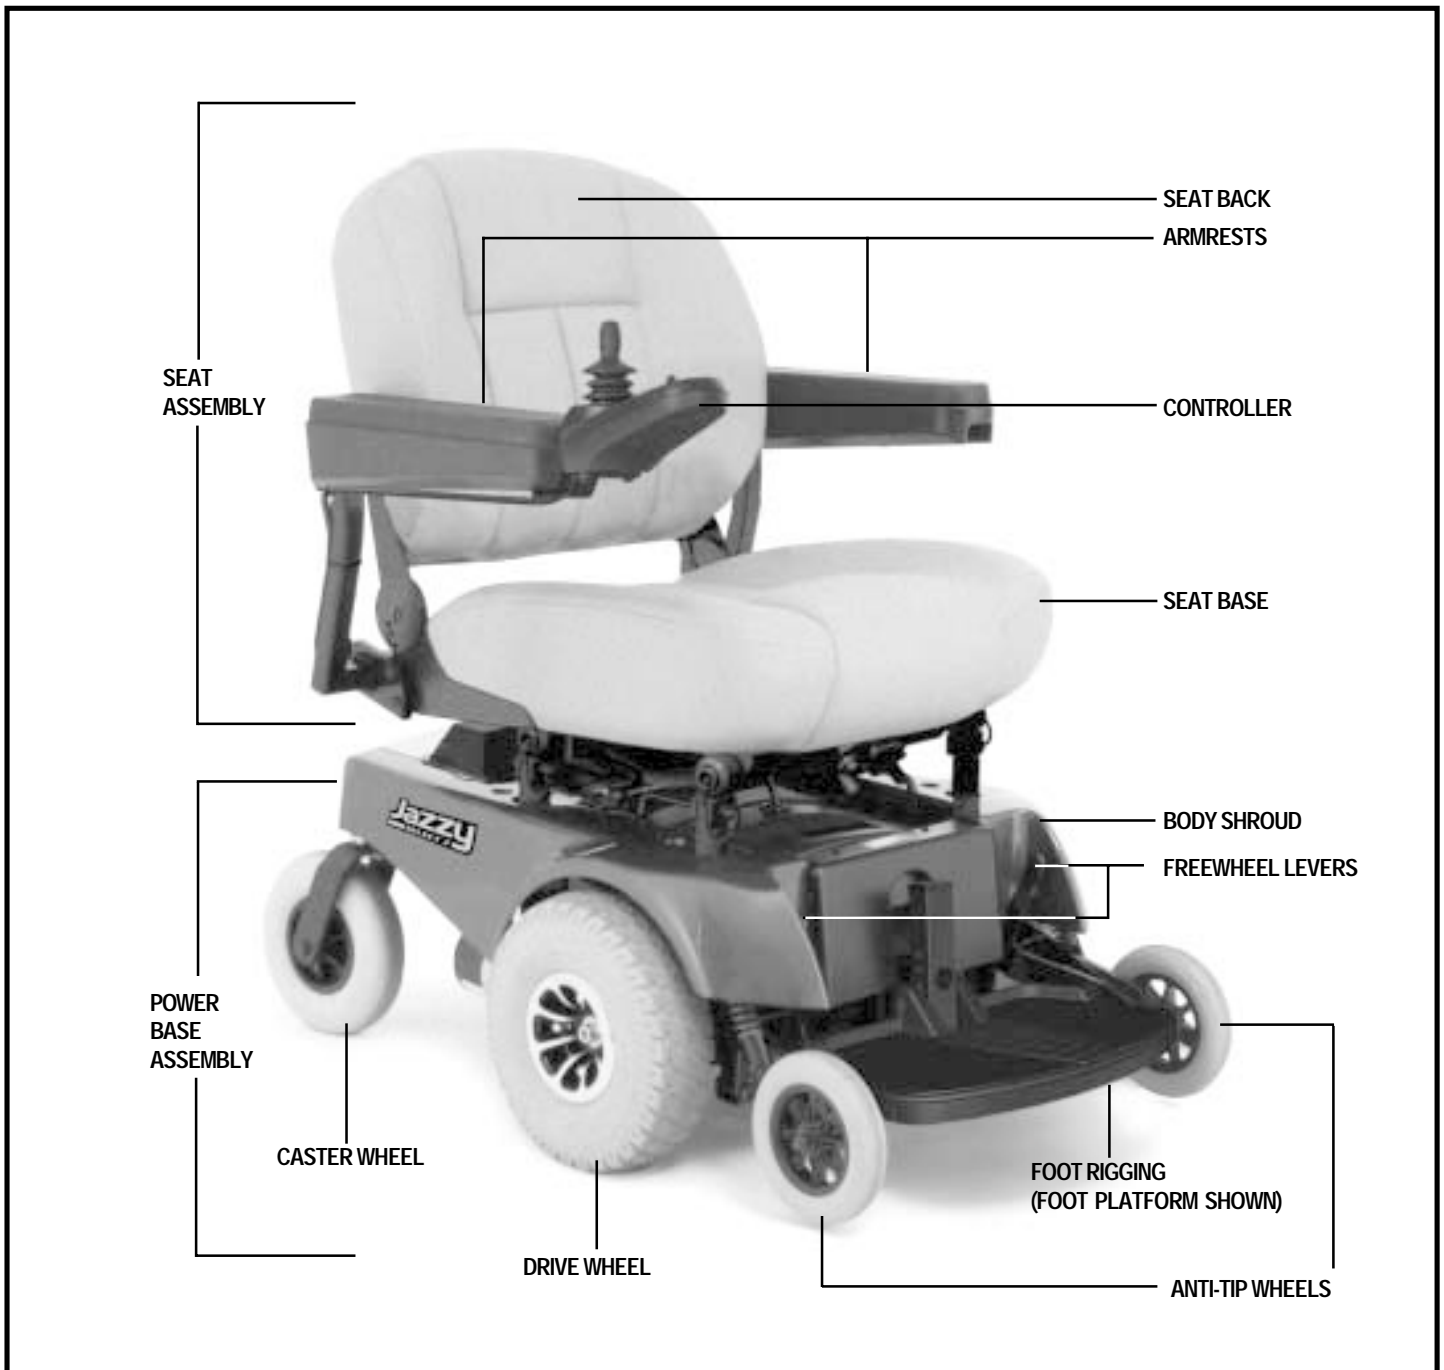

Figure 5. The Jazzy Select 7
Your power chair has two main assemblies: the seat and the power base. See figure 5. Typically, the seating system includes the armrests, the seatback, the seat base, and the controller. The power base assembly includes two drive wheels, two anti-tip wheels, two rear caster wheels, a body shroud, a frame assembly (located under the body shroud), two battery boxes, and the electrical connectors. See figures 5, 6, and 7.
1. Locate the manual freewheel levers at the front of the chair. See figure 5.